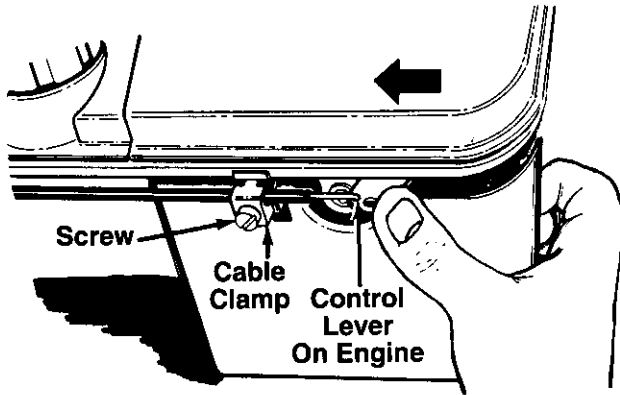

FIGURE 16.
1. Remove the screw shown in figure 16. Remove the cable clamp from the cable.